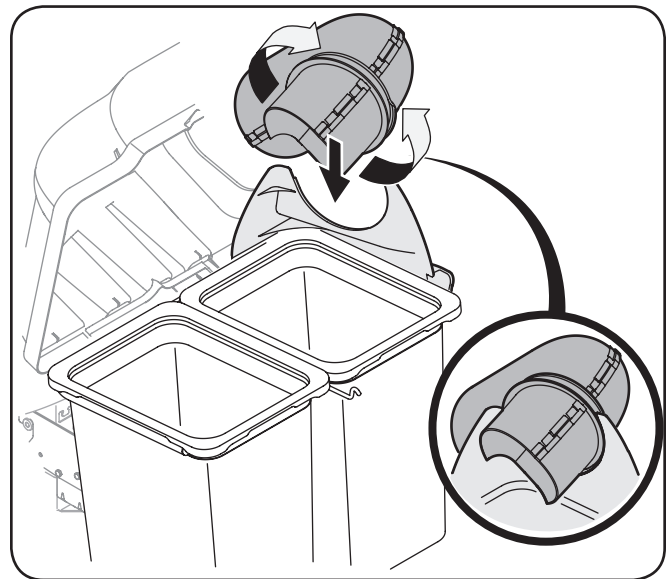

Figure 4-23
4. Continue to work the discharge chute down over the chute elbow until the groove on the discharge chute aligns with the upper chute support, as shown in the inset of Figure 4-23.